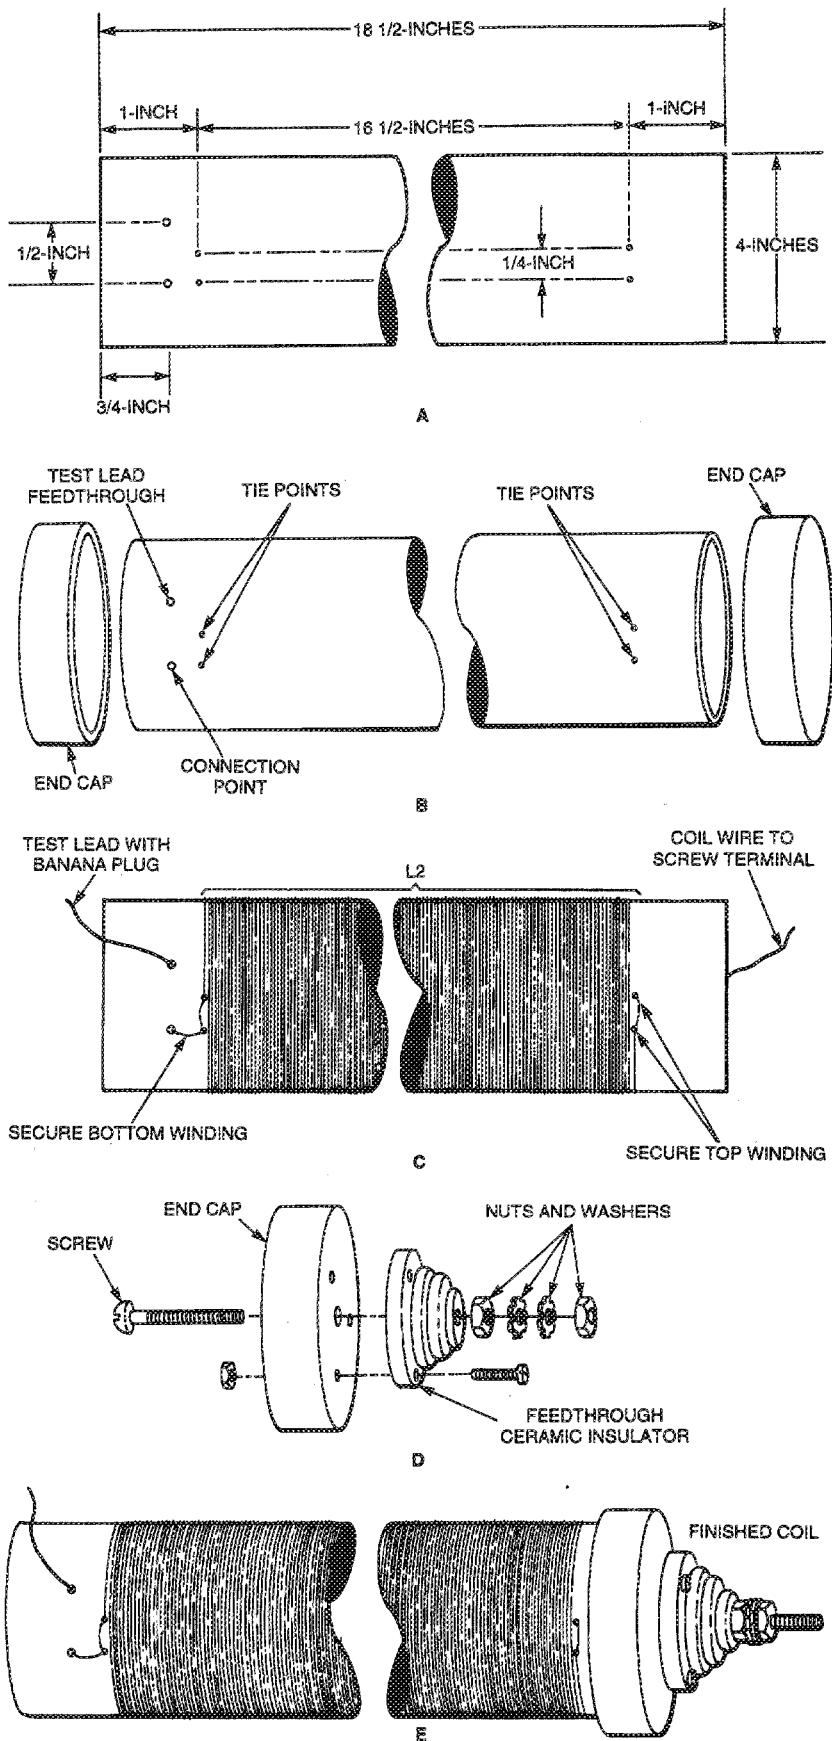

Fig. 6. The tower (or secondary) coil was wound on an 18½-inch length of PVC pipe. Shown here are fabrication details of the tower-coil assembly.
**Tower-Coil Fabrication.** The tower (or secondary) coil, L2, was wound on a piece of PVC pipe. Figure 6 gives details of fabricating the tower-coil assembly. Begin by cutting the a section of 4-inch diameter PVC pipe to a length of 18 1/2-inches (as shown in Fig. 6A). Then, temporarily place end caps on each end of the coil form (as shown in Fig. 6B) to make sure they fit snugly. Once the fit is confirmed, remove the end caps and then (again referring to Fig. 6B) drill a hole in the coil form of sufficient size to accommodate a 6-32 screw, about 1/4 inch up from the bottom of the form. That hole is to serve as a tie point for the ground end of L2.